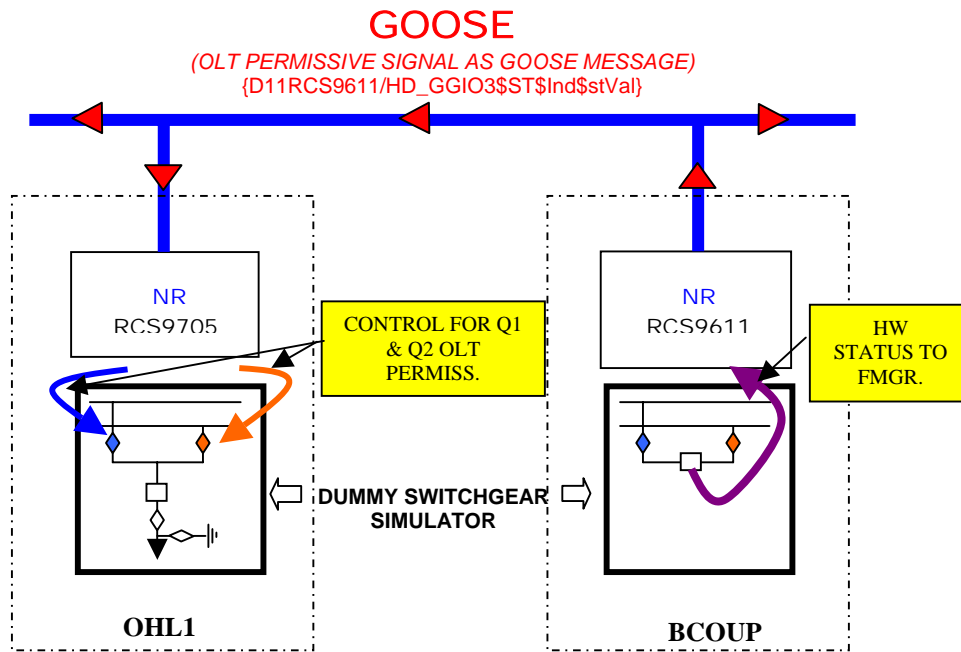

Figure 3: GOOSE Message Implementation
- c. Engineering and transmission of GOOSE messages was successfully demonstrated by using these messages for station-wide interlocking as shown in Figure 3 (below). GOOSE messages were also picked up by the HMI. This would help in reducing Panel and inter Panel wiring.